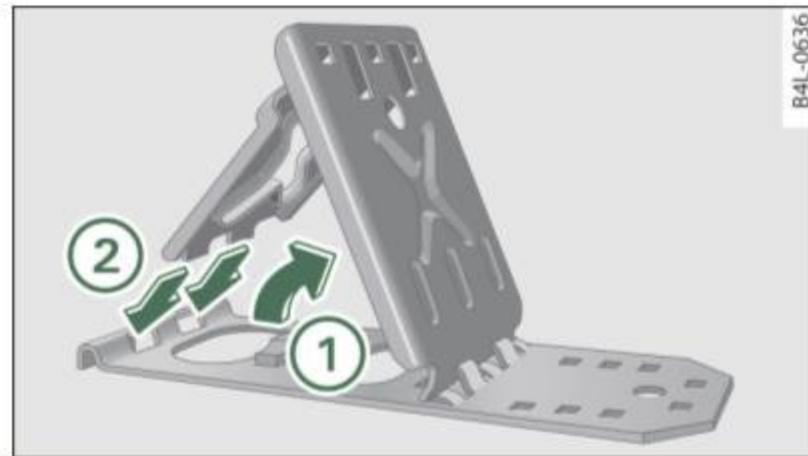

Fig. 216 Opening folding chocks
To use the chocks, you first have to raise the support plate ⇒ fig. 216 ① and then insert the locking plate with the two “tabs” into the elongated holes in the base plate ② ⇒ ⚠.